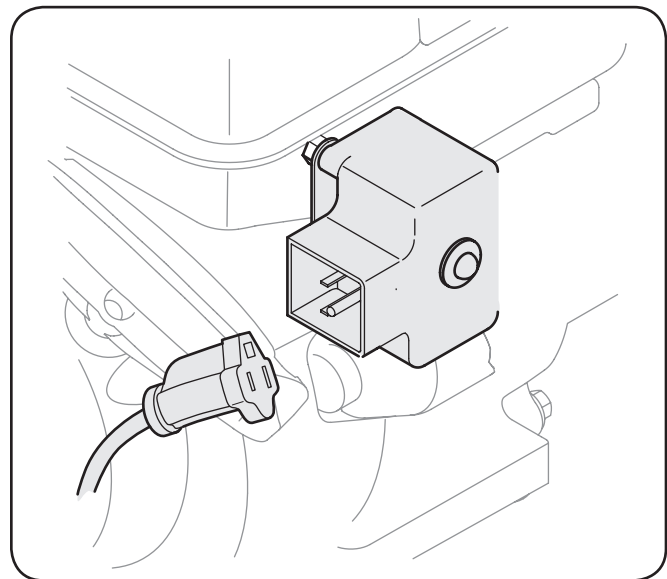

Figure 3-5
**NOTES:** When connecting power cord always connect power cord to switch box on engine first; then into outlet. See Figure 3-5